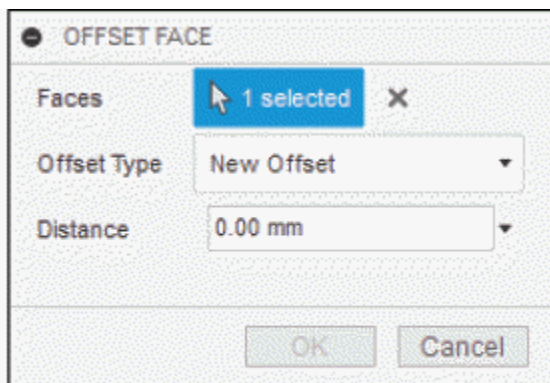

Figure-4. OFFSET FACE dialog box
- Click on the face of the model to offset. The **OFFSET FACE** dialog box will be displayed; refer to Figure-4.